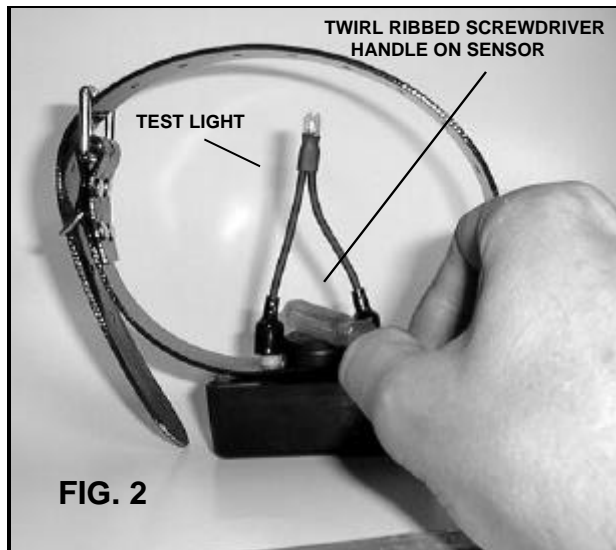

FIG. 2
- 4) Rapidly twirl the ribbed handle of a screwdriver across the vibration sensor. (see Fig. 2) The test light will glow for .2 to 1 sec. depending on how the unit is programmed.